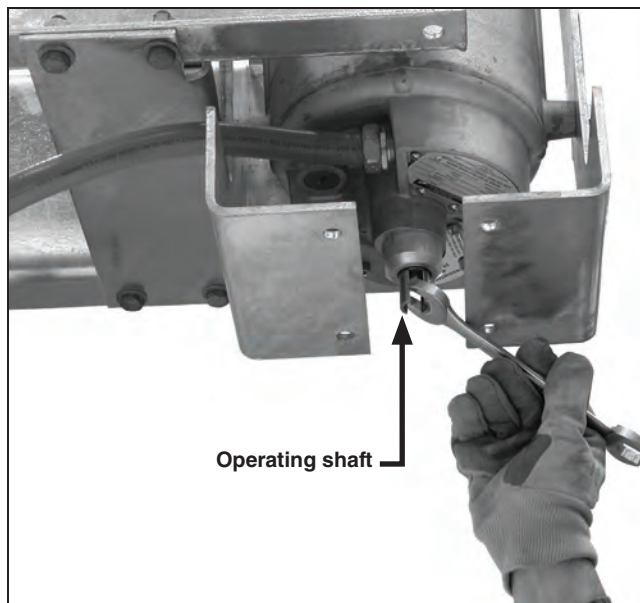

Figure 32. Rotate the operating shaft.
- STEP 1.** Manually rotate the operating shaft counter-clockwise until it stops. See Figure 32.